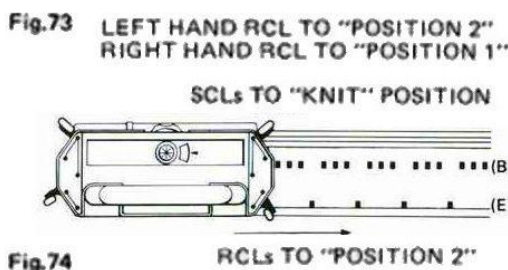

Fig.74
- (f) With carriage on right, return the trailing RCL (right hand) to "Position 2". (Fig.74)